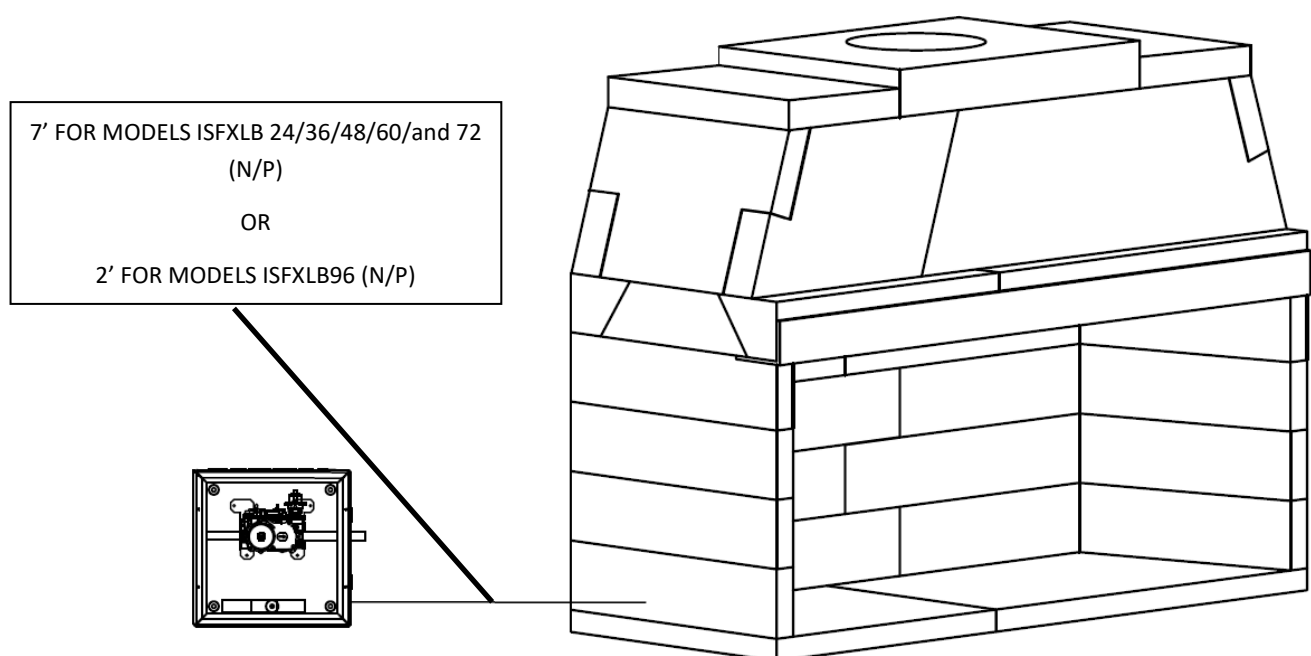

FIGURE 1
- 1) The valve control box comes with an 110" pilot assembly lead; therefore, the box must be mounted within 7' of the fireplace for models ISFXLB36/48/60/72 and within 2' for model ISFXLB96. Valve controls are contained in a 12" x 12" x 4" NEMA 1 enclosure (**Figure 1**).